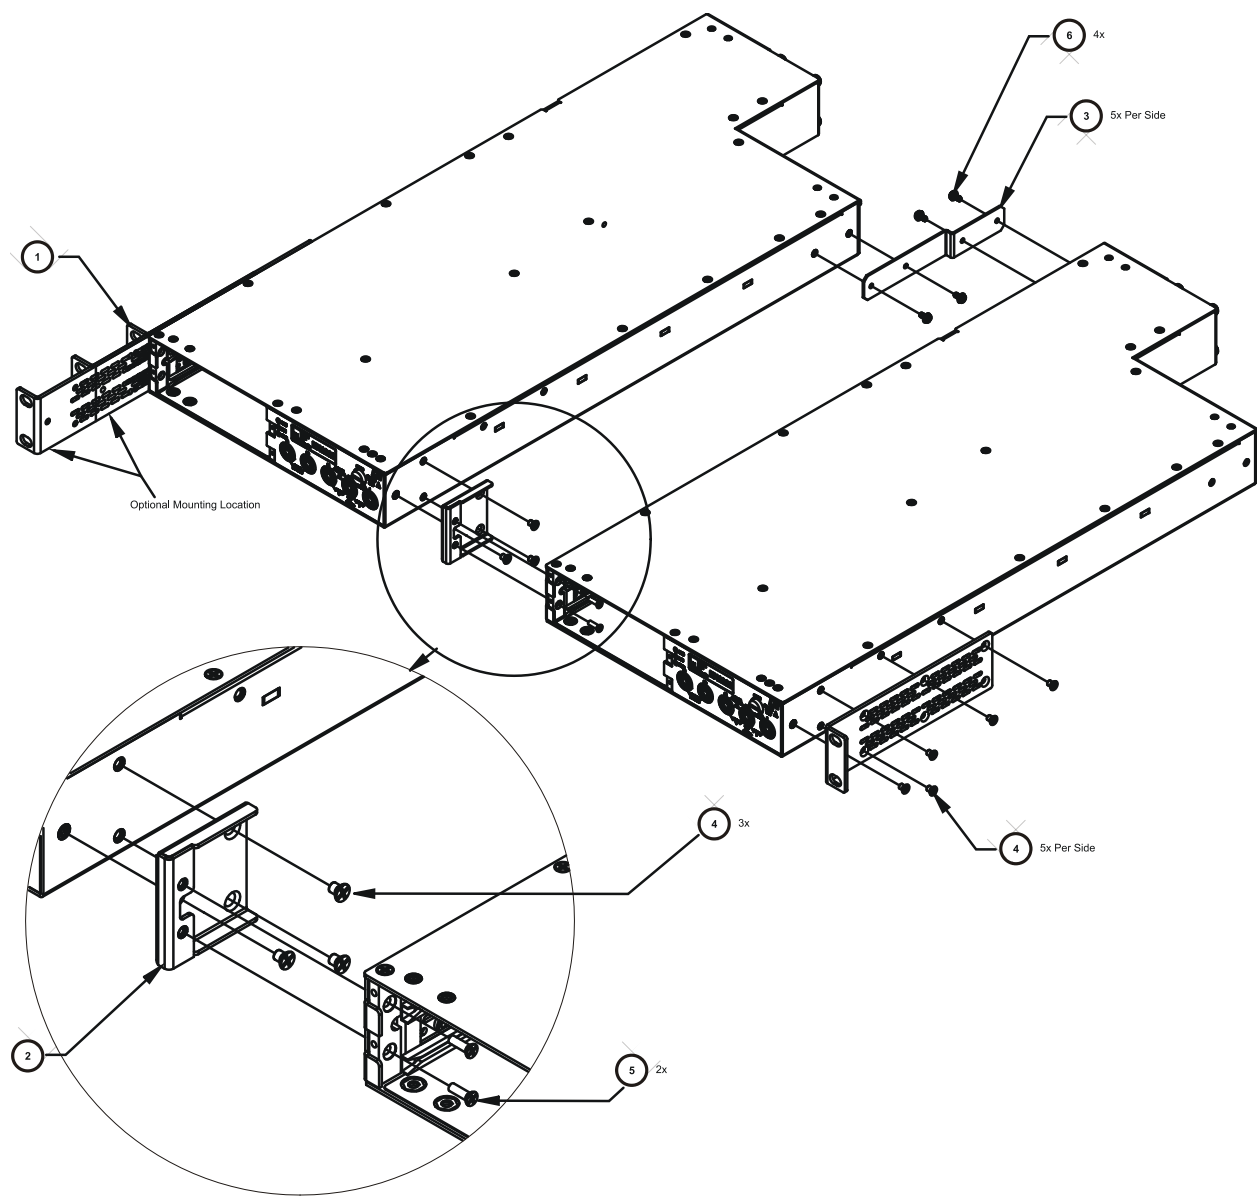

FIGURE 2-5: DUAL HALF RACK EAR INSTALLATION DIAGRAM (EXPLODED FRONT VIEW)
- 2) Using a #2 Phillips screwdriver, install the rack ears (P/N: 41-0482-009) on the front of the EX1202As using five (5) 6-32 x 3/8" flat head Phillips stainless steel screws (P/N: 37-0114-025) for each rack ear. One ear should be installed on the left side of one chassis, while the other ear is installed on the right side of the other chassis. Note that the "Optional Mounting Locations" in Figure 2-5 allow the EX1202A to be installed in a rack either flush or recessed.
- 3) Install the front mating bracket (P/N: 41-0493-006) on the right EX1202A using three (3) 6-32 x 3/8" flat head Phillips stainless steel screws (P/N: 37-0114-025).
- 4) Install the rear mating bracket (P/N: 41-0493-007) on the right EX1202A using two (2) 4-40 x 0.187 pan head Phillips screws (P/N: 37-0011-018).
- 5) Connect the two EX1202As by installing two (2) 4-40 x 3/8" flat head stainless steel Phillips screws (P/N: 37-0100-037) through the right EX1202A capture the front mounting bracket. Then, use two (2) 4-40 x 0.187 pan head Phillips screws (P/N: 37-0011-018) to connect the rear mating bracket to the right EX1202A.